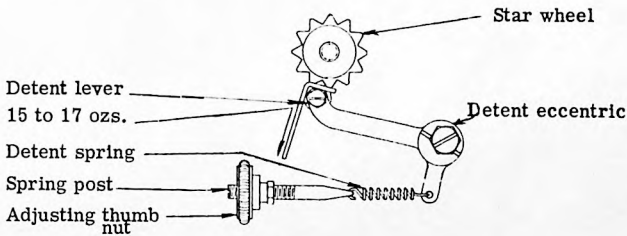

Figure 8
28. FEED ROLL DETENT ADJUSTMENT (Figure 8)